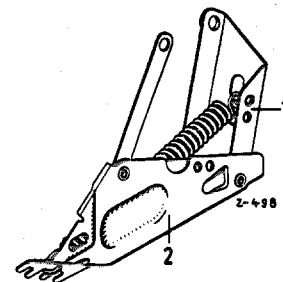

Fig. 82 — 18/2
2. Screw the contact switch (15) with the two button-head screws AM 3×8 DIN 7986, with lock washers and hexagon nuts, onto the mounting bracket (14) (see Fig. 82 — 18/1).
3. Screw the contact switch (15) with the mounting bracket (14) onto the arm (1), and
then screw the adjusting bracket (10) with the adjusting screw (12) and the lock nut (11) onto the arm (2) of the hood hinge, using 2 button-head screws AM 4 × 10 DIN 7986 with lock washers and hexagon nuts (the holes for fixing are already bored in the hood hinge) (Fig. 82 — 18/1 and Fig. 82 — 18/2).
4. Unscrew the cover of the engine compartment light (3).
Hold the base plate (4) with the lamp holder of the engine compartment light, according to the dimensions given, against the center engine compartment panel (6) see Fig. 82 — 18/1) and mark the bores for the wiring and for fixing the engine compartment light.
6. Screw the engine compartment light (3) onto the center engine compartment panel (6), using the four button-head screws (9) 3 × 20 DIN 7986 with backing washers (7) and hexagon nuts (8).
7. Hold the cable connector (17) against the left engine compartment panel (20) (see Fig. 82 — 18/1) and mark the holes for fixing the cable connector and drill them out to 4.5 mm diameter.
8. Screw the cable connector (17) to the left engine compartment panel, using 2 oval-head screws AM 4 × 20 DIN 7985 with backing washers, washers 4.3 DIN 125 and hexagon nuts.